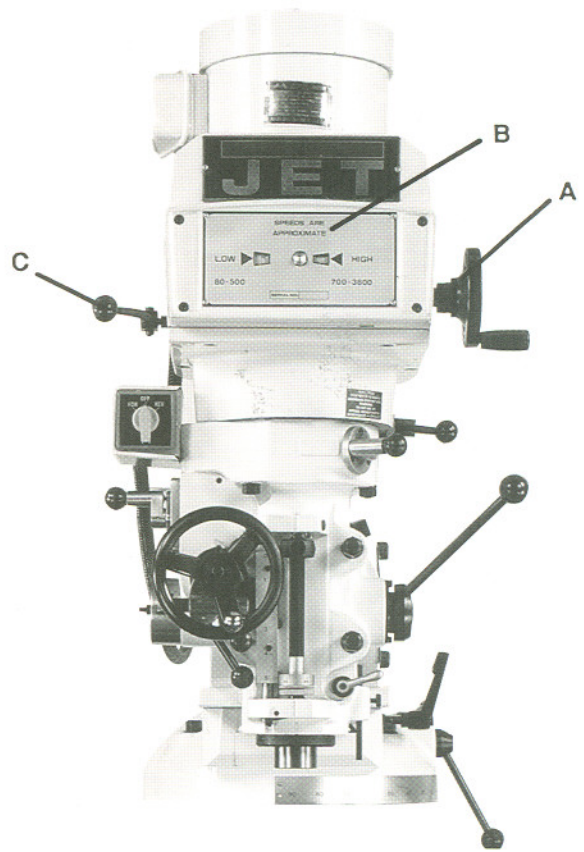

Fig.4
- A. **Variable Speed Control** (A, Fig. 4) - located on the right side of the head assembly. Turn clockwise or counter-clockwise to adjust spindle speed. **Caution:** change speed only when spindle is turning.
- B. **Variable Speed Dial Indicator** (B, Fig. 4) - located on the front of the head assembly. Indicates selected speed in high or low range.
- C. **Spindle Brake** (C, Fig. 4) - located on left side of the head. Move in either direction to stop spindle once power has been turned off.